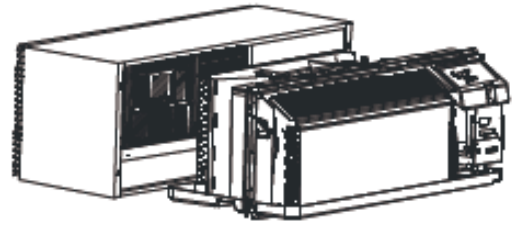
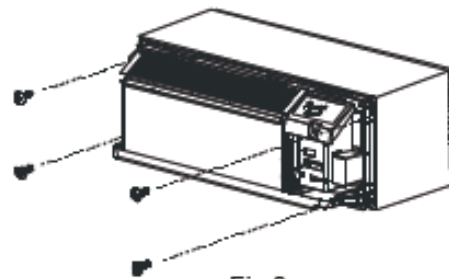

Fig.7
Fig.8
- Lift unit level and slide unit into wall sleeve until firmly against front of wall sleeve and secure with 4 screws and washers (supplied in the SLEEVE ASSEMBLY) through the unit flange holes. (See Fig.7 and Fig.8)